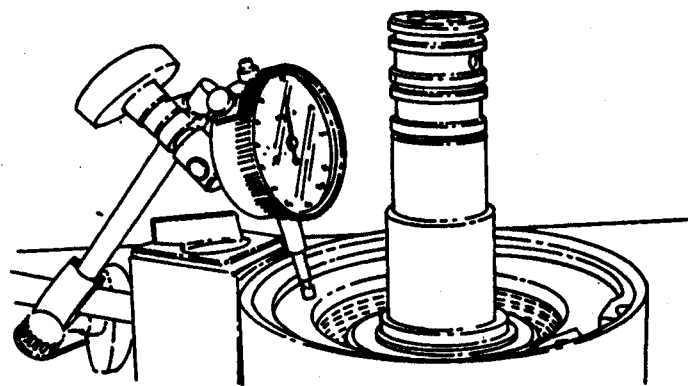

Figure 38.
5. Install pressure (end) plate (43). Make sure that the prongs on the pressure plate DO NOT locate in the large grooves in the hub (the ones with drilled holes). Install circlip (46).
6. Using a dial test indicator as shown in Figure 38, measure the end float of the pressure (end) plate, which should be 0.075 to 0.126 inches (1.90 to 3.20 mm). If necessary, fit shims (47, Figure 2) between the retaining circlip (46) and pressure (end) plate (43) to correct end float inaccuracies.